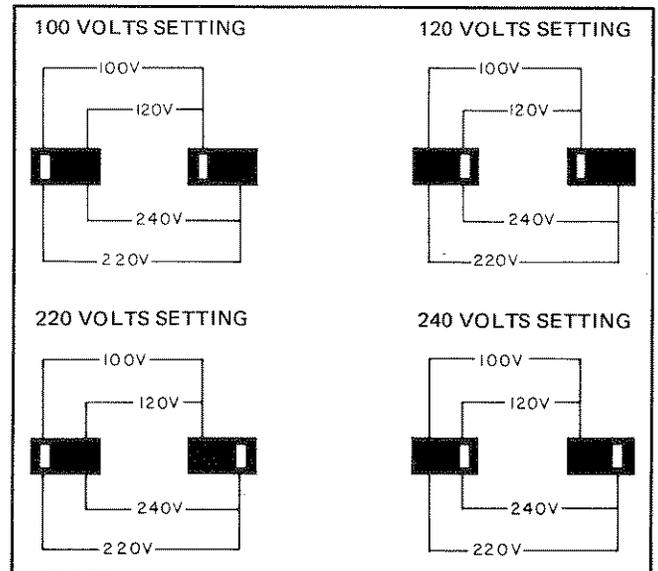

Figure 2-1. AC Power Level Selector Switch Positions
- b. Refer to Figure 2-1. At the instrument's rear panel ac power level switch, select the line voltage (100V, 120V, 200V, 240V) closest to the voltage you measured in step a. Line voltage must be within +5% or -10% of the voltage setting. If it is not, you must use an autotransformer between the ac source and the 8750A.